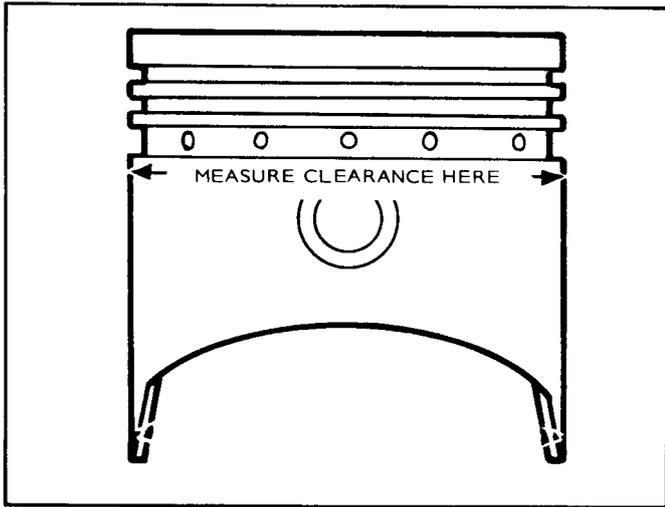

FIGURE 11. POSITIONS FOR MEASURING DIAMETERS OF PISTONS
- b. Measure the piston as shown in Figure 11 to be sure the total piston-to-cylinder clearance follows specifications.